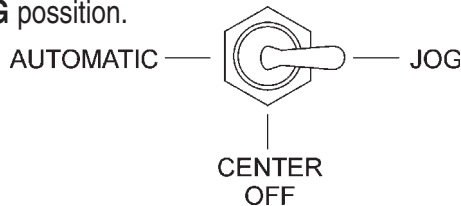

Figure 31. Manual Cylinder Jogging Switch
1. To determine the pressure of the Hydraulic System, set the **Cylinder Stroke Control switch** (Figure 31) to the **JOG** position.